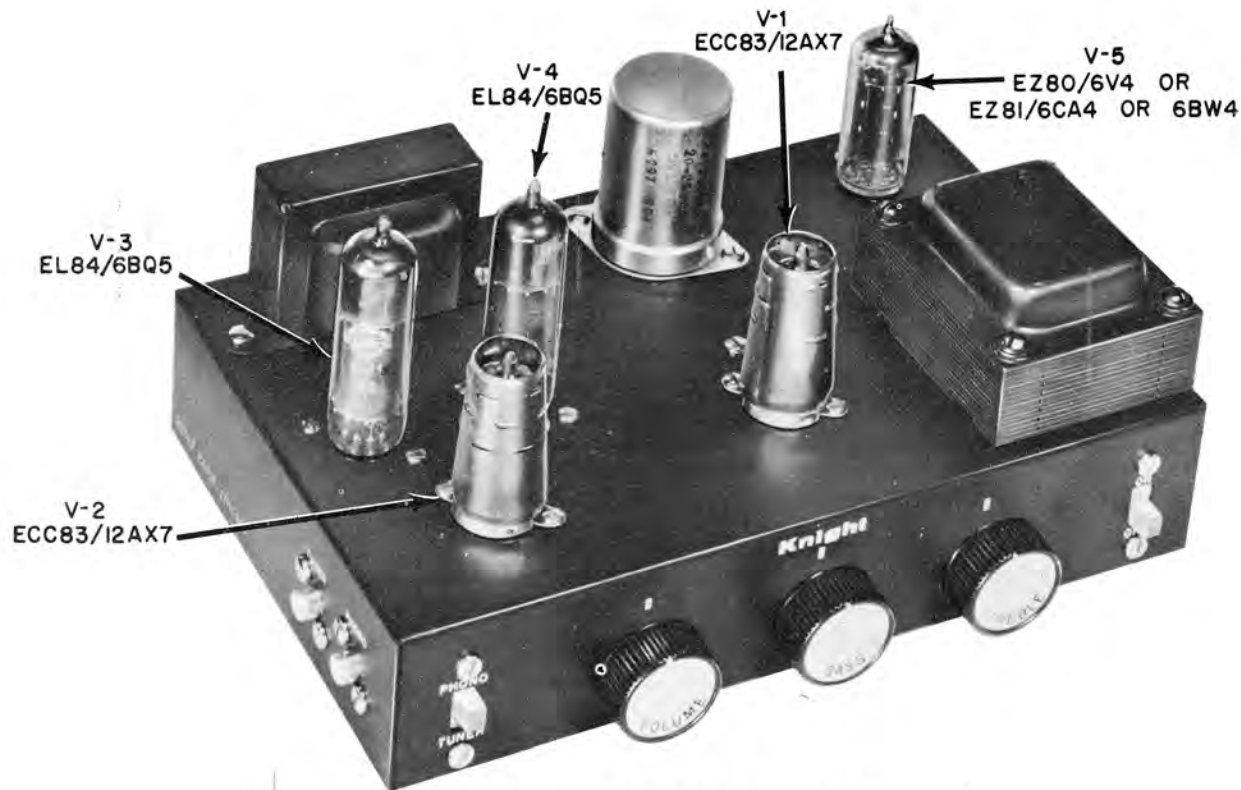

FIGURE 13. TOP VIEW OF AMPLIFIER
- See Figure 13. Insert the V-1, V-2, V-3, V-4 and V-5 tubes in their sockets, as shown.